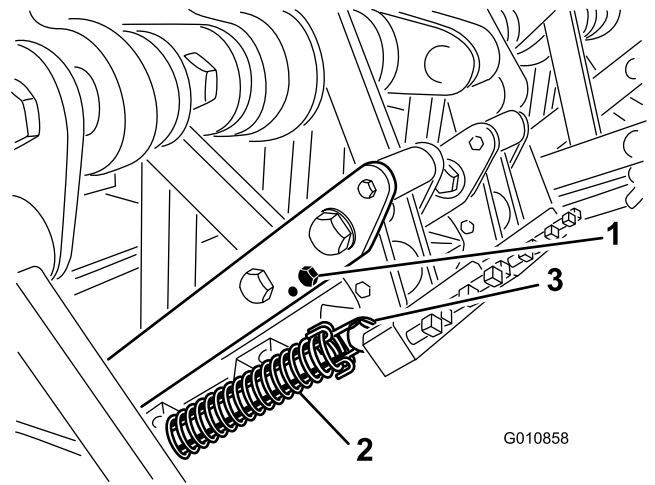

Figure 28
- Release the spring tension to the tine head (Figure 28).
- Remove the bumper bolt and bumper from the linkage arm and reinsert them into the other adjustment hole (Figure 28).